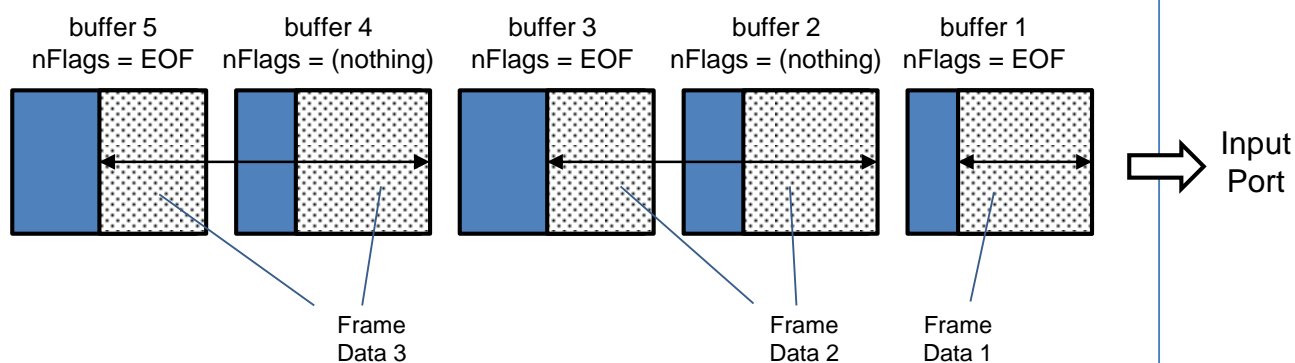

Figure 3-2 Example of Input Buffer Sequence – multiple buffers for a Frame Data
- `OMX_BUFFERFLAG_ENDOFFRAME` must be set in the *nFlags* member of the `OMX_BUFFERHEADERTYPE` structure only when a buffer payload contains the last data of a picture data (see Figure 3-2).